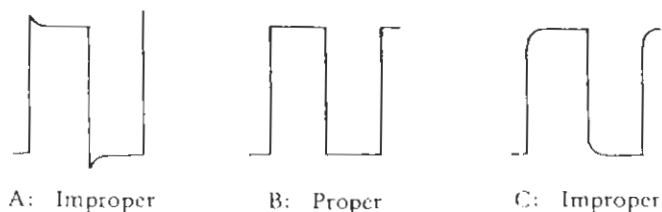

Fig. 5-3 Attenuator frequency compensation
4. The waveform display at VERT INPUT, X10 and X100, should be as shown at "B" in Fig. 5-3.